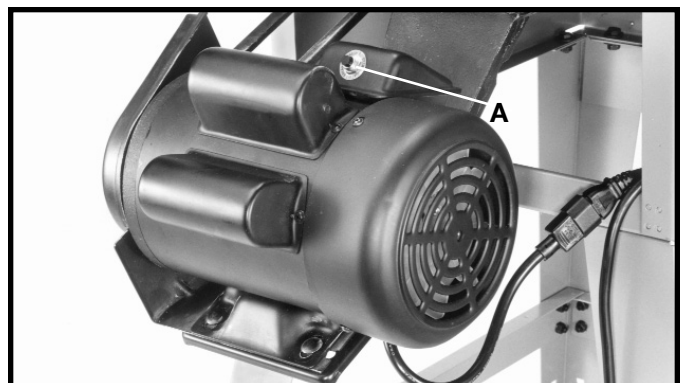

Fig. 43A
The motor recommended for use with your saw is equipped with a resetable overload relay (A) Fig. 43A. If the motor shuts off or fails to start due to overloading (cutting stock too fast, using a dull blade, using the saw beyond its capacity, etc.), or low voltage, turn the switch to the “OFF” position, let the motor cool three to five minutes and push the reset button (A), which will reset the overload device. The motor can then be turned on again in the usual manner.